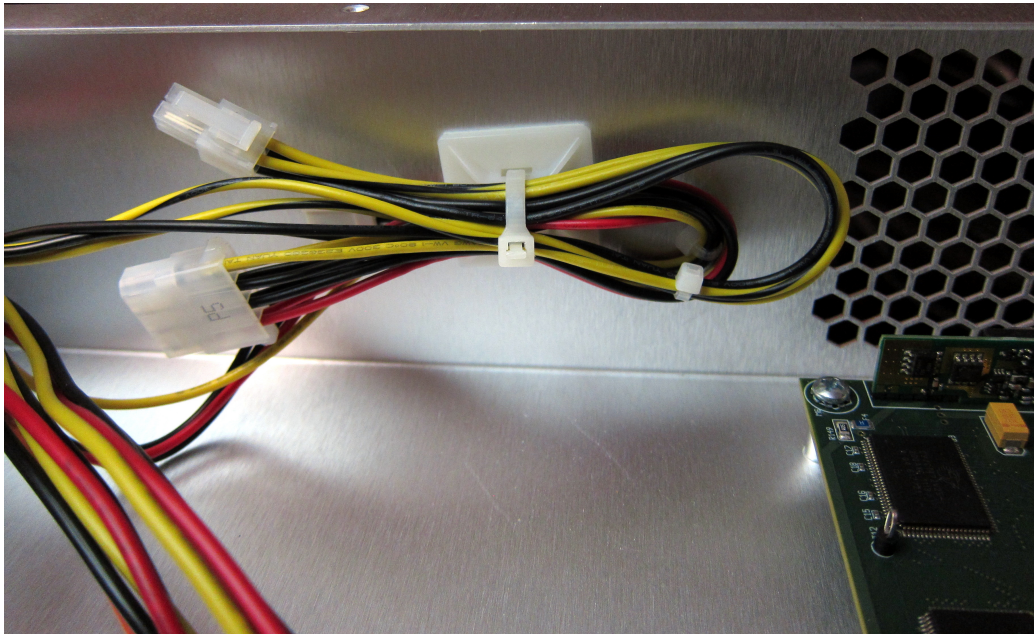

Figure 41: Tie wrapping unused power supply outputs.
9. Install ABM-4 tie mount and use 8.5" cable tie (RT-508) to secure unused power supply outputs as shown in Fig. 41.